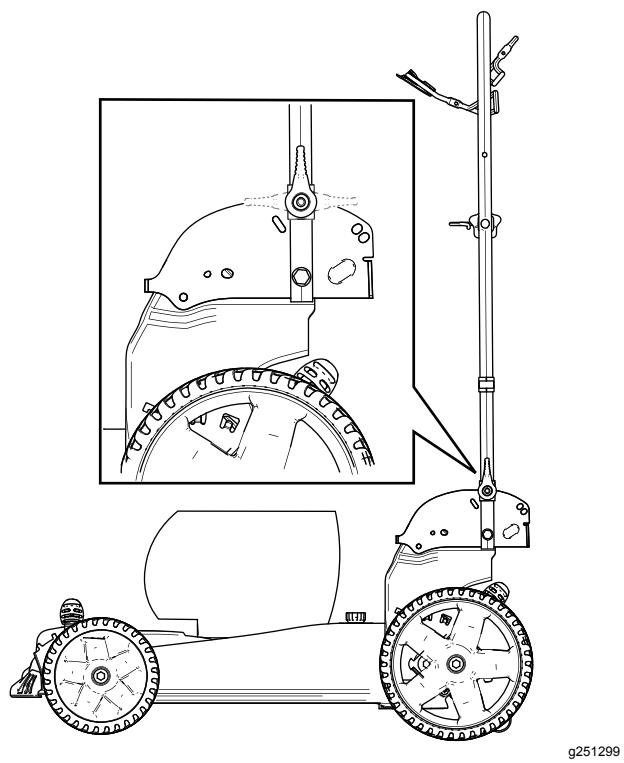

Figure 21
- Fold the handle forward either to the vertical position or the fully forward position as shown in Figure 21.